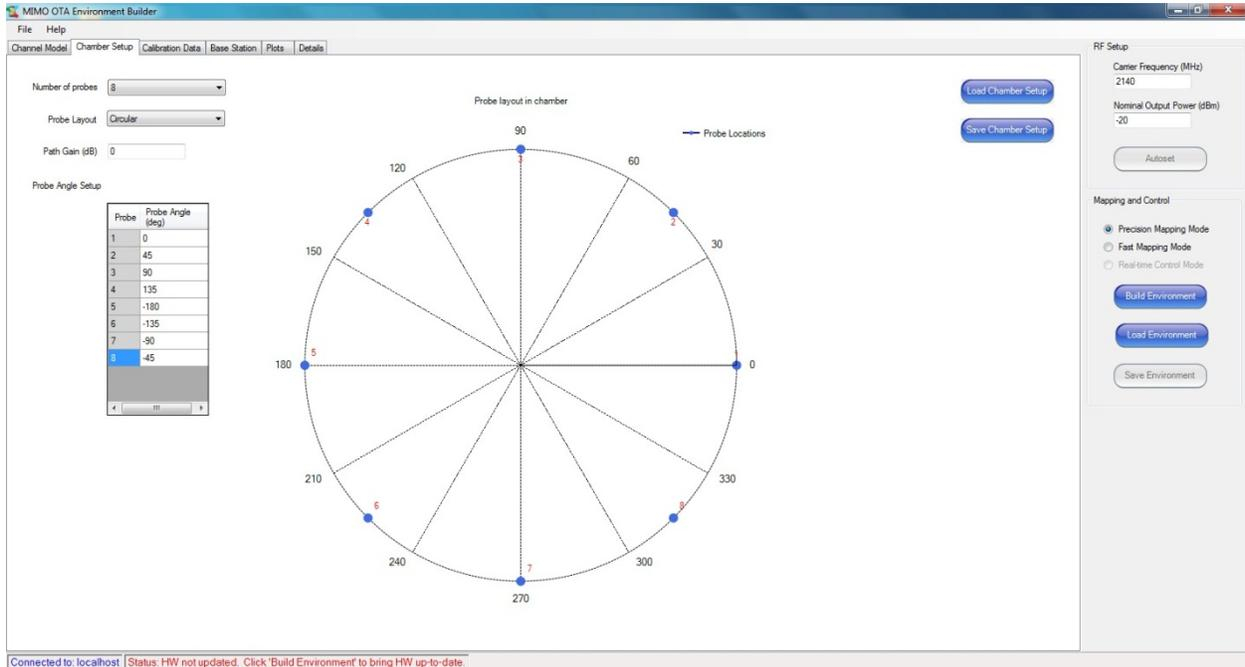

Figure 3-16: Chamber Setup Tab
- Under the *Chamber Setup* tab, select the **Number of Probes** and the **Probe Layout**, as shown in Figure 3-16.